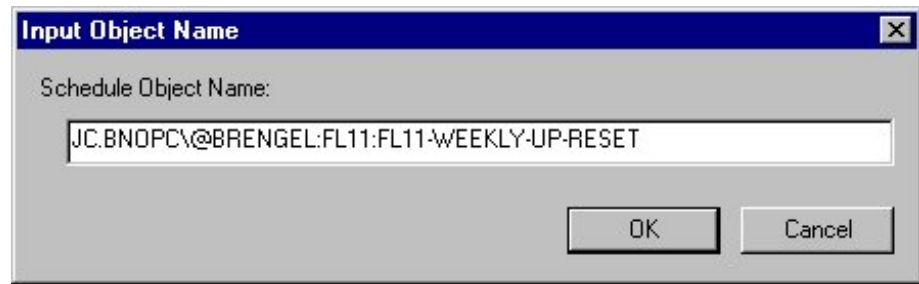

Figure 6-4: Completed Input Object Name Dialog Box
7. In the Schedule Object Name field, type in the complete hierarchical path of a Schedule object (Figure 6-4).